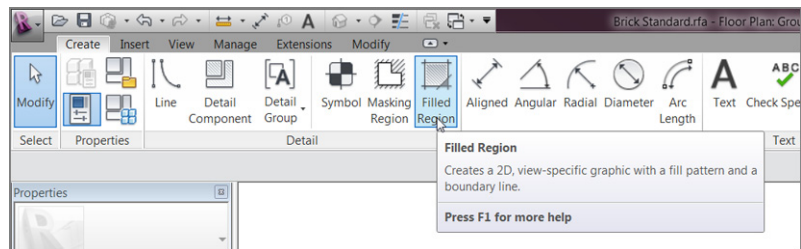

FIGURE 12.23: Click the Filled Region button on the Detail panel.
1. On the Detail panel of the Create tab, click the Filled Region button, as shown in Figure 12.23.